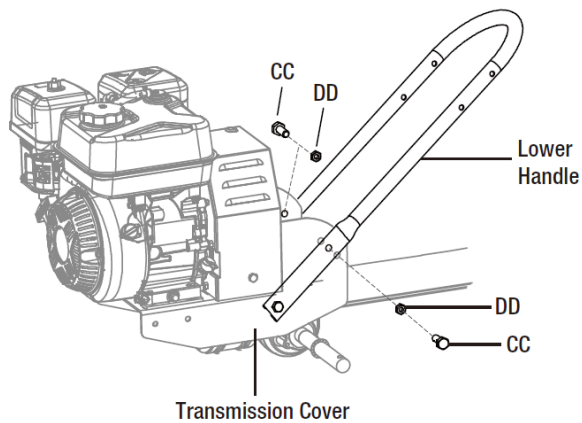

Figure 1-3
The lower handle is attached to the outside of the transmission cover. Align the lower holes to the desired angle and insert M10x25 bolts (CC) and M10 Nuts (DD) to secure the handle on both sides. See Figure 1-3.